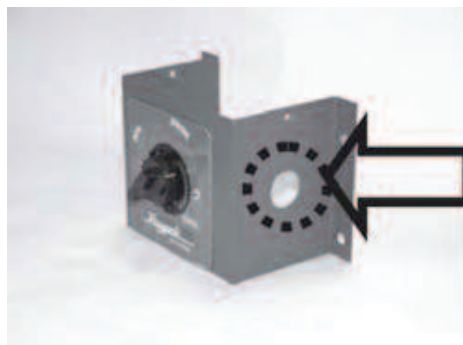

Fig. 17: Remove Knockout
3. Remove either the left or right "knock-out" for wiring on the poolstat control as shown in Fig. 17.